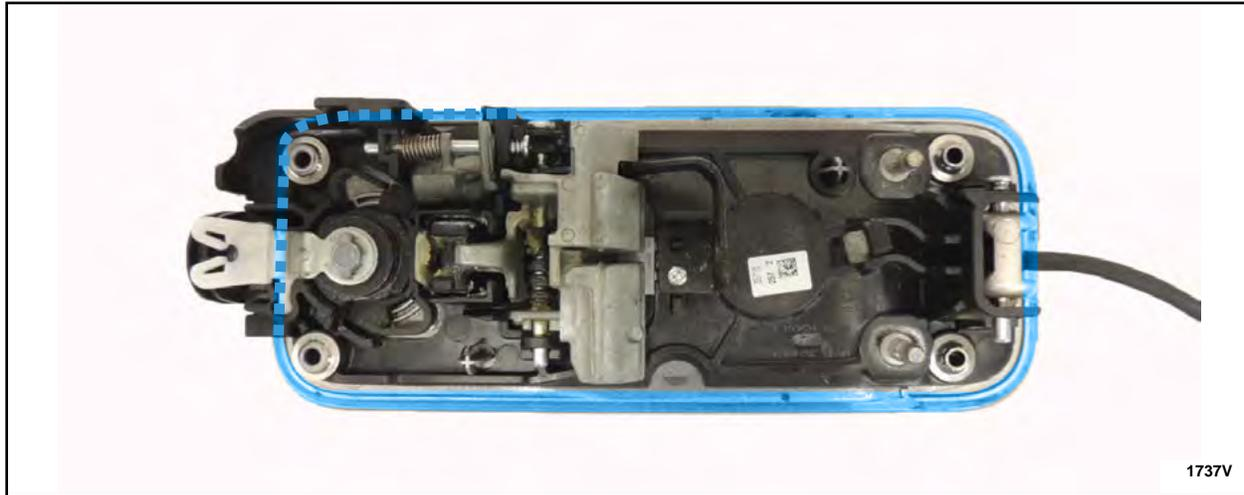

FIGURE 43
16. Using a clean shop cloth and isopropyl alcohol, clean the highlighted mating surface area of the exterior front door handle. See Figure 43.